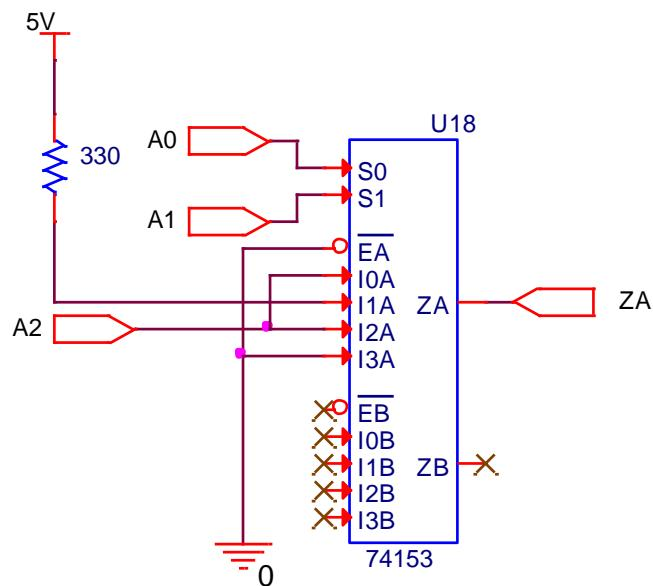

Figure 8.5
2. Can you reverse the procedure of this experiment? That is, given the circuit, can you find the Boolean expression? The circuit shown in Figure 8.5 uses 4:1 MUX. The inputs are called A2, A1, and A0. The first term is obtained by observing that when both select lines are LOW, A2 is routed to the output; therefore, the first minterm is written  $A_2 \bar{A}_1 \bar{A}_0$ . Using this as an example, find the remaining minterms.